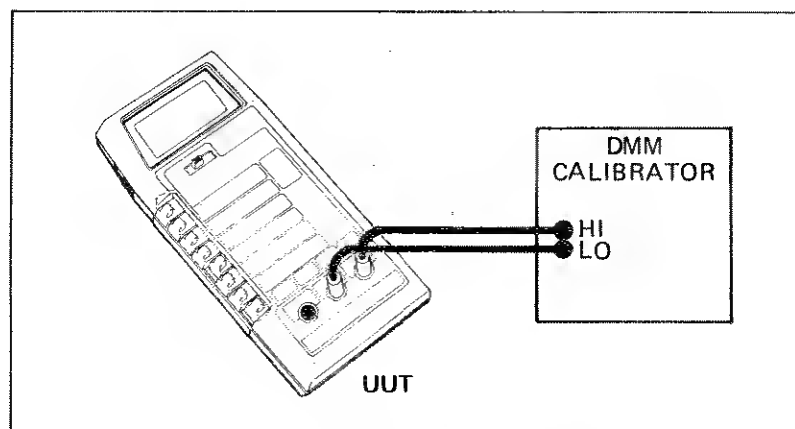

Figure 4-3. General Equipment Connection
3. Connect the equipment as shown in Figure 4-3.
1. Connect the equipment as shown in Figure 4-3 and release the mA-°C-V/ $\Omega$ /S function switch.
2. Connect the equipment as shown in Figure 4-3.